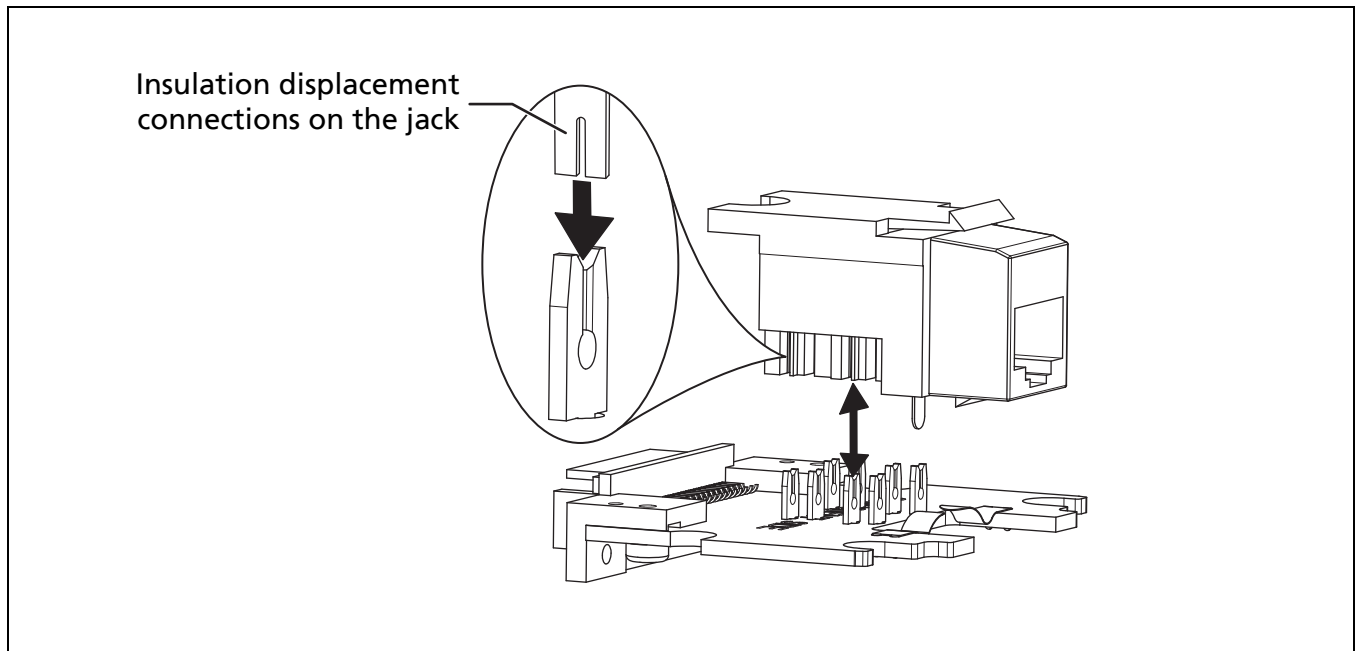

Figure 4. How to Align the RJ45 Jack on the Circuit Board
- 3 Pull the RJ45 jack off of the circuit board (Figure 4).
- 4 Align the new RJ45 jack on the connectors on the circuit board. See in Figure 4 how the insulation displacement connectors in the jack slide into the connectors on the circuit board.